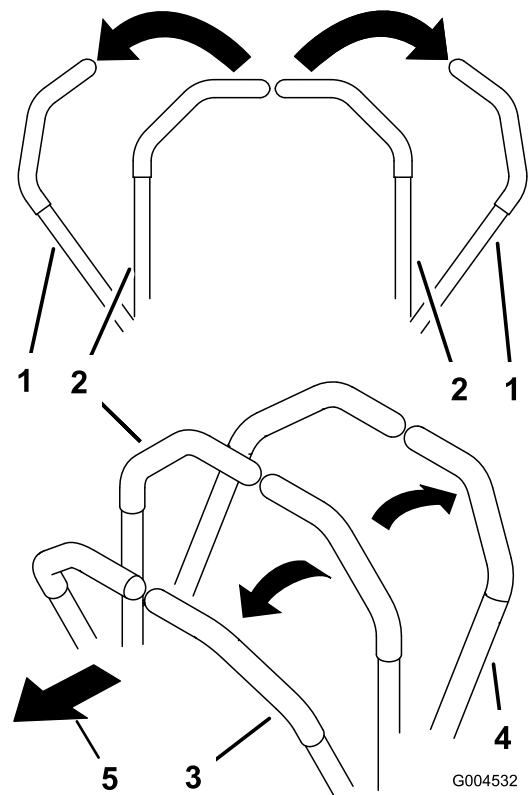

Figure 19
- To move straight forward, slowly push the motion-control levers forward (Figure 19).
- To move straight rearward, slowly pull the motion-control levers rearward (Figure 19).
- To turn, slow the machine by pulling back on both levers and then push forward on the lever on the opposite side from which you want to turn (Figure 19).